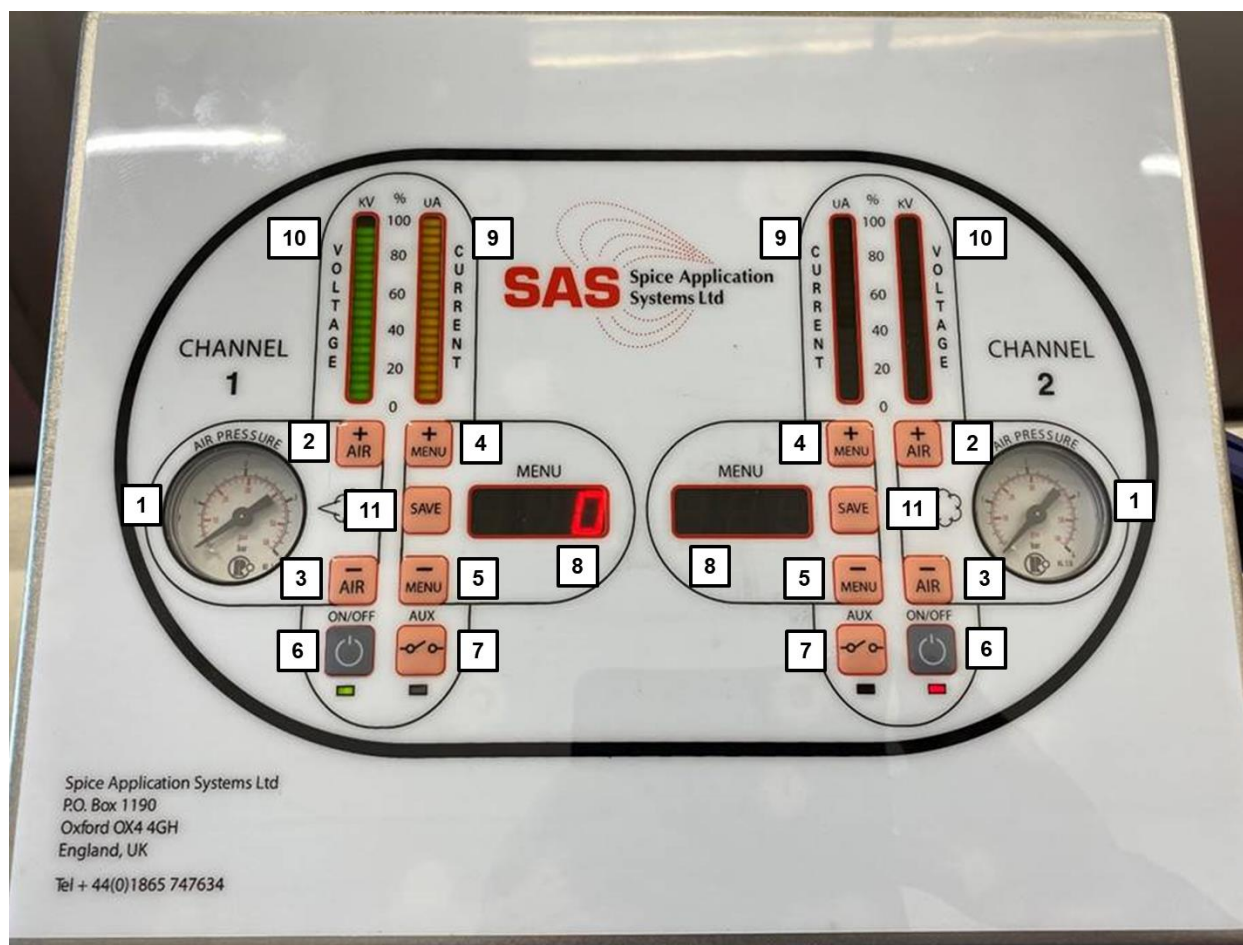

Fig 8
(see Page 19 - Fig 8 for reference)
5. To turn on the electrostatic effect, press the Local ON/OFF button on the panel facia (see page 19 - Fig 8, position 6). The LED light below the button will turn from Red to Green and the Kilovolt and Microamp dials will be illuminated.